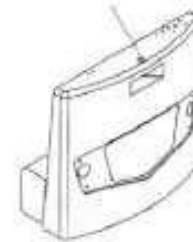

Figure 2-56
(2) Lifting description of the overhead guard as shown in Figure 2-56